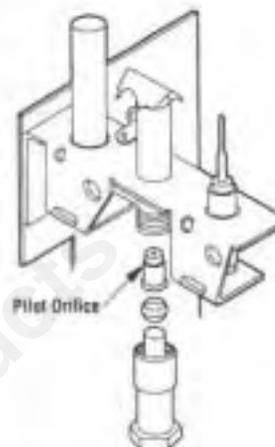

Figure 53
**Step 8. Millivolt Appliances** – Replace the pilot orifice with the one provided with the kit (Figure 53).